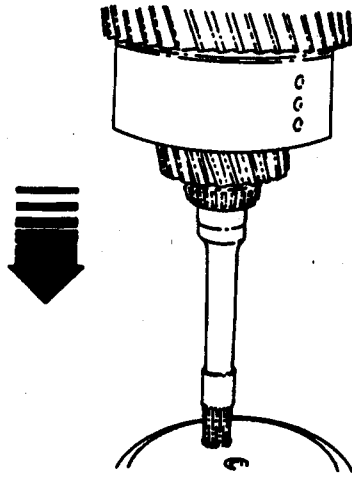

Figure 36.
11. Loosen the low clutch end bearing (53) by tapping the assembly on a piece of aluminum. See Figure 36. Remove bearing using pullers.